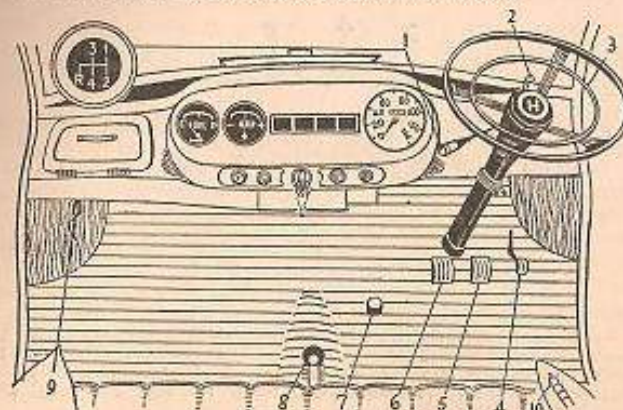
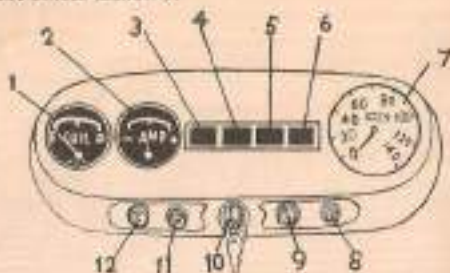

Fig. 2
Fig. 3
The combined ignition-start switch is located in the centre of the control panel (See Fig. 3 item 10) and is operated by a removal key which also locks the driver's door and luggage compartment lid. The first movement of the switch switches on ignition circuit (indicated by the red warning light—see fig. 3 item 6). Further rotation of the switch against the pressure of a spring operates the starter. On releas-
On the right hand side of the control panel, next to the ignition-start switch is located the lighting switch (See Fig. 3 item 9). It is two position pull-push switch. Pulling out the switch to its first position switches on the side and tail lamps; pulling the switch further out lights on the head lamps. The blue beam warning light glows when the beams are in raised position.
The panel light switch is located at the extreme right of the control panel (See Fig. 3 item 8) and is pull-push type. The light is switched on when the knob is pulled provided the side lamps are switched on.
The two windshield blades are operated by a pull-push switch marked 'W' and is located on the left hand side next to the ignition-start switch (See Fig. 3 item 11). Pull the switch knob out to bring both the blades in operation. Parking of the blades is automatic when the switch is pushed back to the 'off' position.
To enrich the mixture and assist starting when the engine is cold, pull the control knob marked 'C' located at the extreme left on the control panel (See Fig. 3 item 12).
This is the amber lamp (See Fig. 3 item 3) which glows when the ignition switch is switched on and engine is not running. It should go out when the engine is started and should remain out all the time the engine is running. Should this light continue to remain 'on' while engine running or does not light when the ignition is in the 'on' position before starting the engine, your dealer should be contacted immediately for necessary correction.
The light, located second from left (See Fig. 3 item 4), glows 'blue' when the head lamps are on and the beams are in the raised position in order to remind the driver to dip for approaching traffic.
This is the small 'green' lamp located next to the blue main beam warning lamp (See Fig. 3 item 5). Whenever the flashing direction indicator lamps are operated by moving the small centrally located lever on the steering hub (See Fig. 2 item 2), the flasher warning lamp also lights on and serves as a warning, should any failure occur in the system.
This is the small 'red' lamp located at the extreme right hand side and next to the green flasher warning light (See Fig. 3 item 6). Whenever the ignition is switched on, the lamp lights up. It should go out as soon as the engine speed is increased. Should it fail to do so ascertain that dynamo belt is not broken or loose. If the belt is undamaged and is not loose, the dynamo is not charging. Electric circuit should be examined for location and rectification of the fault.
The speedometer is situated on the right-hand side of the instrument panel (See Fig. 3 item 7) and gives indication of the total distance travelled.